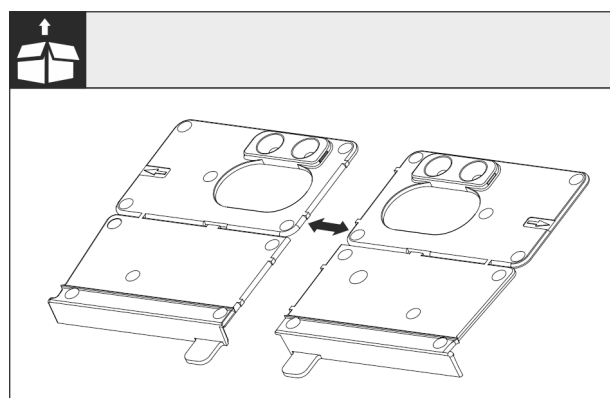

Fig. 27
- Separate the floor mounting bracket Fig. 27 I at the perforation.